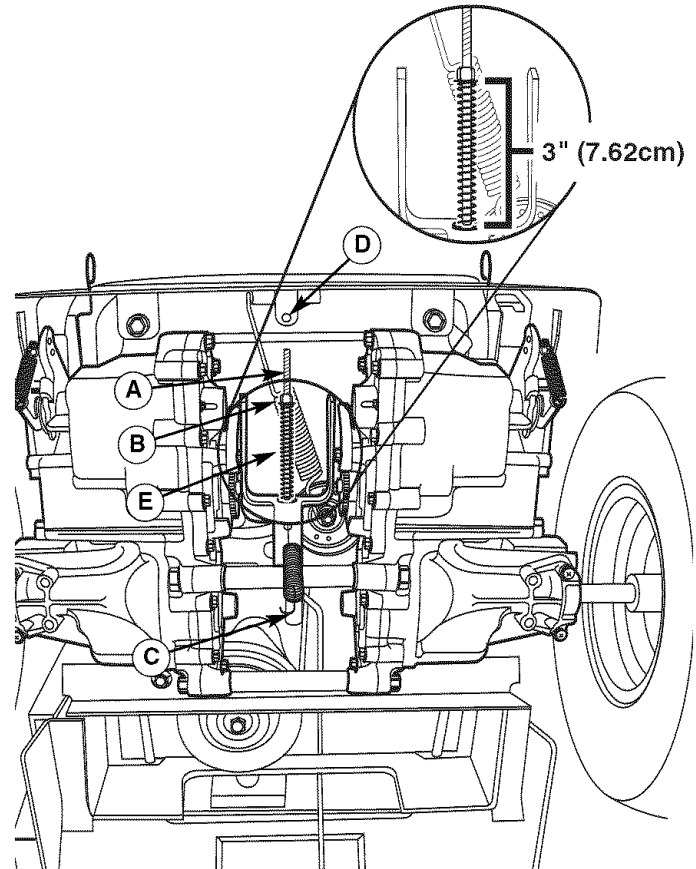

Figure 32. Brake Adjustment
2. Locate the brake rod (A, Figure 32) and adjustment nut (B).
3. Measure the parking brake spring (E). Its compressed length, with the ground speed levers in their PARK positions should be 3" (7.62cm). Adjust the spring length by turning the adjustment nut (B), if necessary.